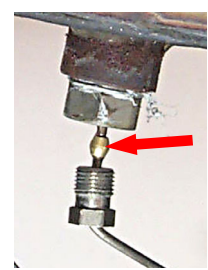

Figure 11
8. Carefully remove and pull the high-limit capillary tube and bulb through the bottom of the frypot (see Figure 11).